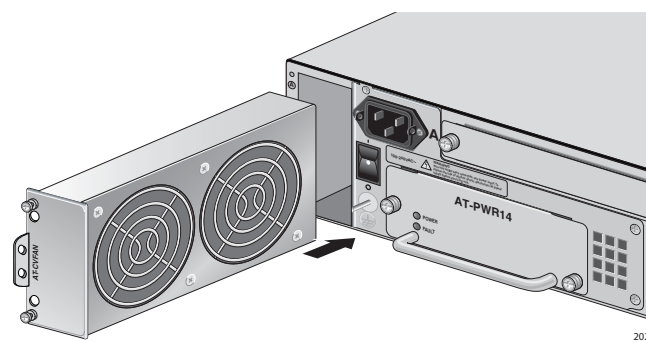
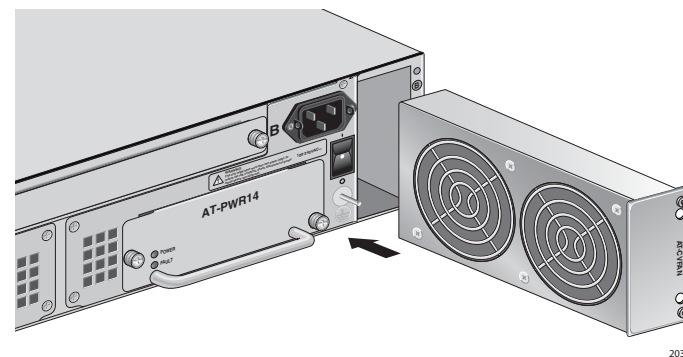

Figure 6. Inserting an AT-CVFAN Module into the Fan Slot A
Figure 7. Inserting an AT-CVFAN Module into the Fan Slot B
- Make sure the handles on the fan modules are aligned to the side edges of the chassis. For example, the handle on the fan module inserting into Fan Slot A should be on the left and the handle on the module inserting into Fan Slot B should be on the right, as shown in Figure 6.
- Slide the new fan module into the fan slot, as shown in Figure 6 or Figure 7, until the front of the fan module is flush with the front of the chassis.